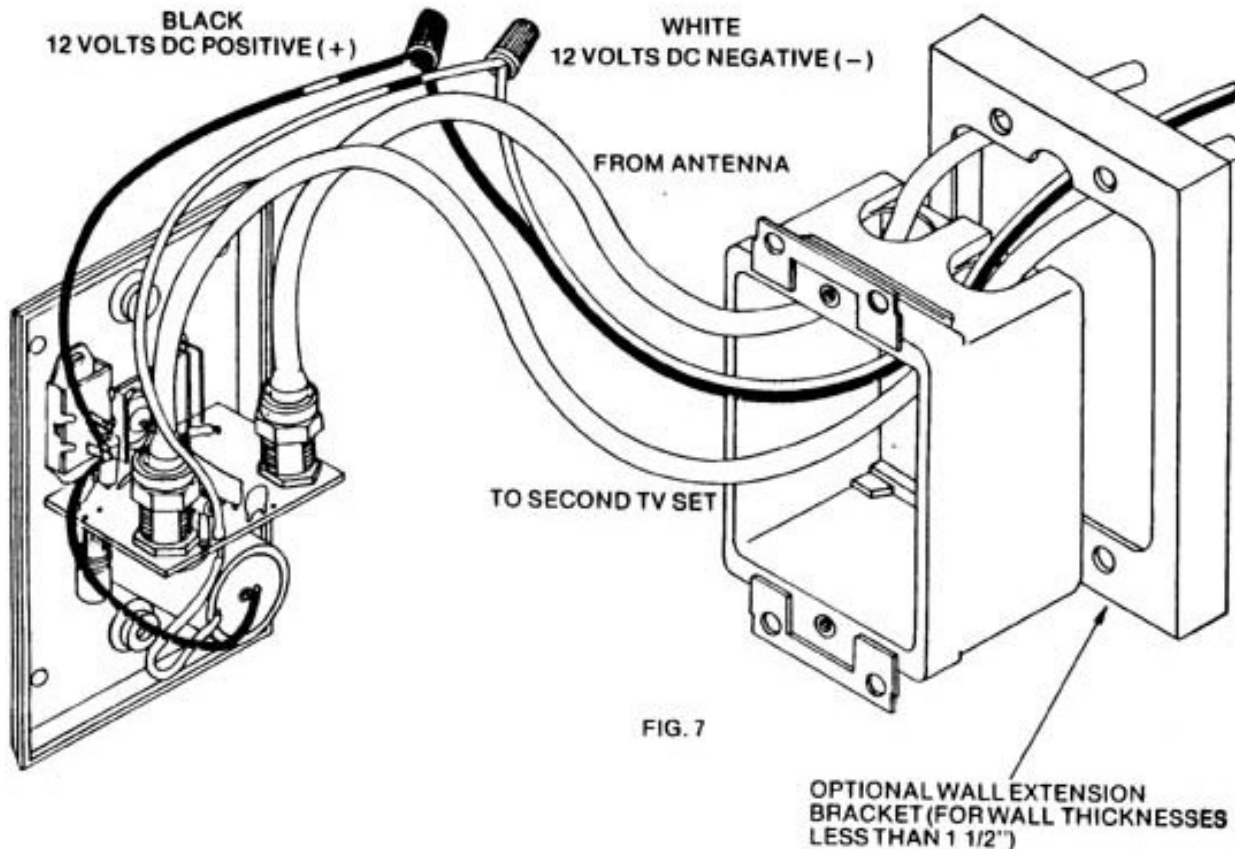

FIG. 7
3. Approximately 4 feet of cable should be "free" between the antenna terminals and (a) the cable entry on the mounting plate (12660) or (b) the clamp or "gland" ( 10579/10580 Fig. 7), whichever method is used.
- 2- Remove protective box from amplifier and feed the antenna co-ax cable and connector through the correct hole as shown in FIG. 7.